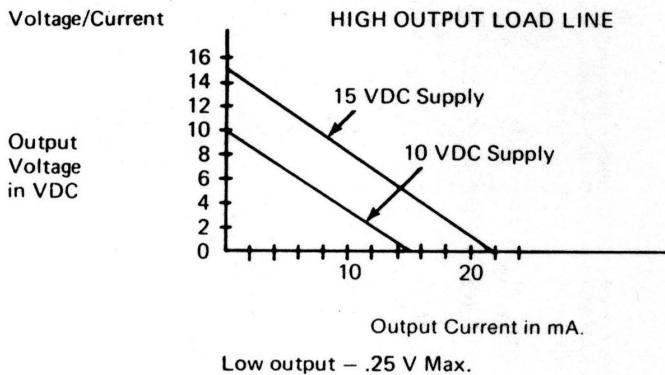

Figure 2. Output Signal and Current
- Output Voltage: Dependent on load. See Figure 2.
**Output Pulse:** Dual channel at 50 ppr, staggered or overlapping (quadrature). Single channel at 100 ppr. See Figure 2.